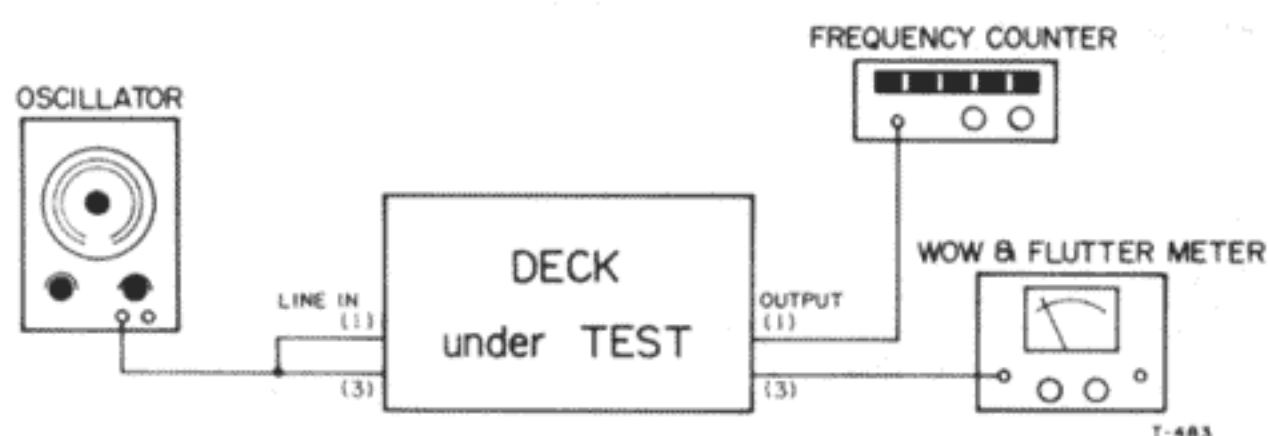

Fig 7-8 Test Connections for Wow/Flutter and Tape Speed Test
1. Connect Test equipment to the deck as shown in Fig. 7-8. (Except Oscillator).
1. Connect test equipment to the deck as shown in Fig. 7-8.